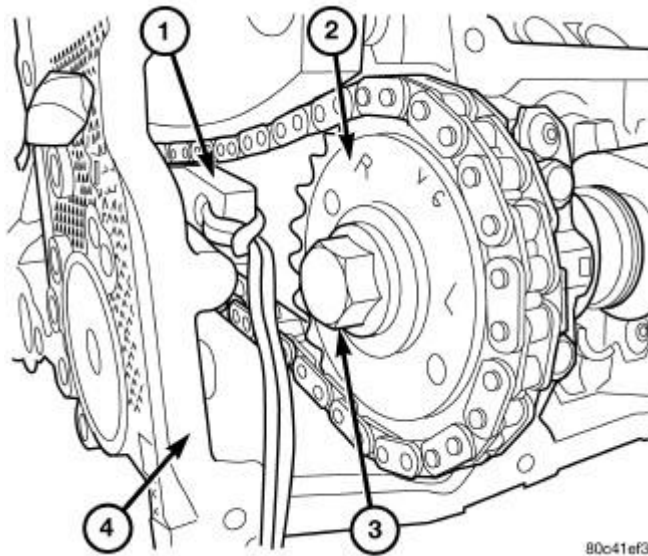

Fig. 69: Timing Chain Tensioners Secured With Timing Chain Wedge
9. Remove timing chain wedge special tool (special tool #8379, Locking Tool, Wedge) (1). Refer to **Fig. 69**.